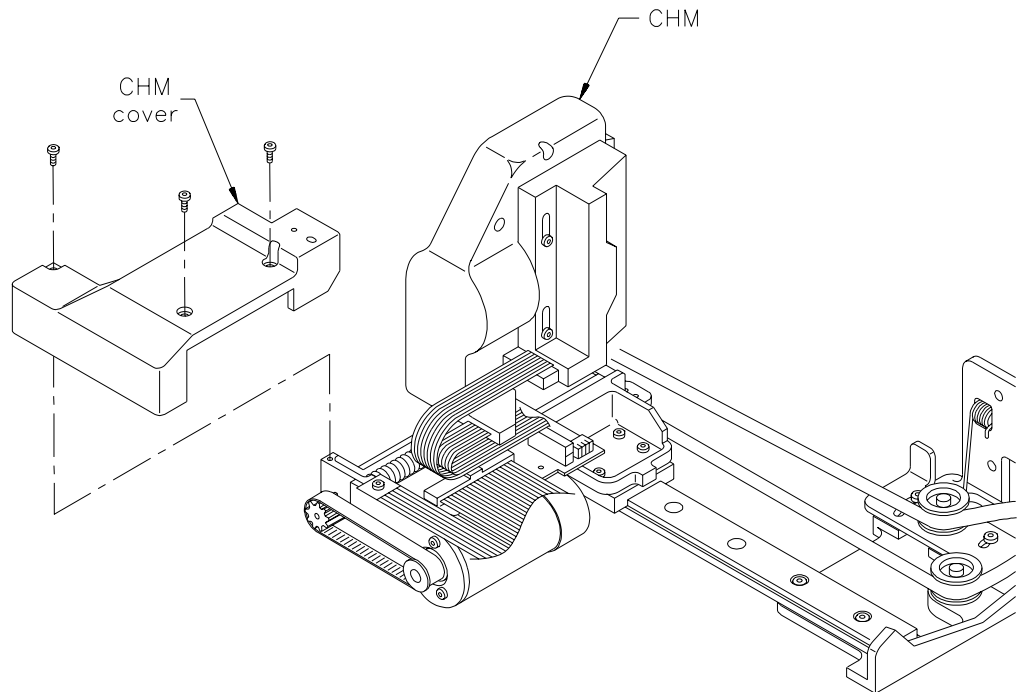

Figure 8 Replacing the CHM cover
10. Use a T-10 TORX screwdriver and three 4-40 × 0.375 panhead screws to replace the CHM cover, shown in Figure 8.